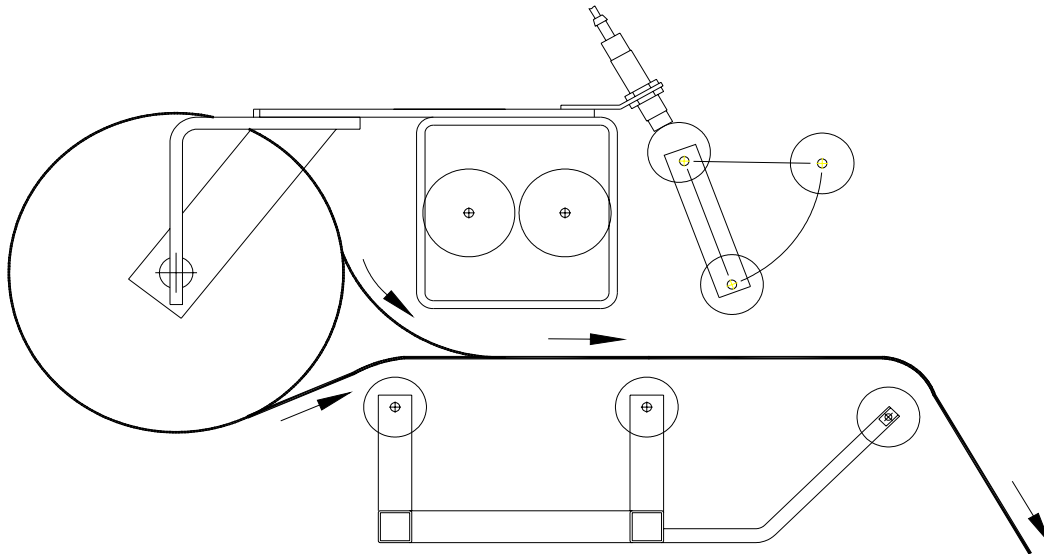

Fig. 1 OPEN CRADLE
6. Pass the roped tail of the film through opening (as shown on the film quick threading pattern DWG. # 434460 Fig.1).